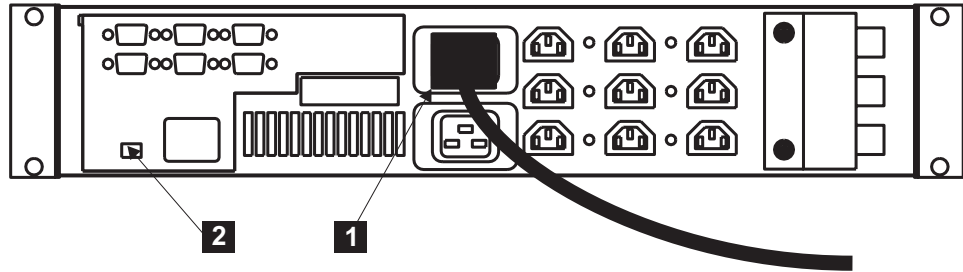

Figure 148. Installing the 2145 UPS power cable
9. At the back of the 2145 UPS, plug the 2145 UPS main power cable into the power socket, **1** in Figure 148 on page 311.